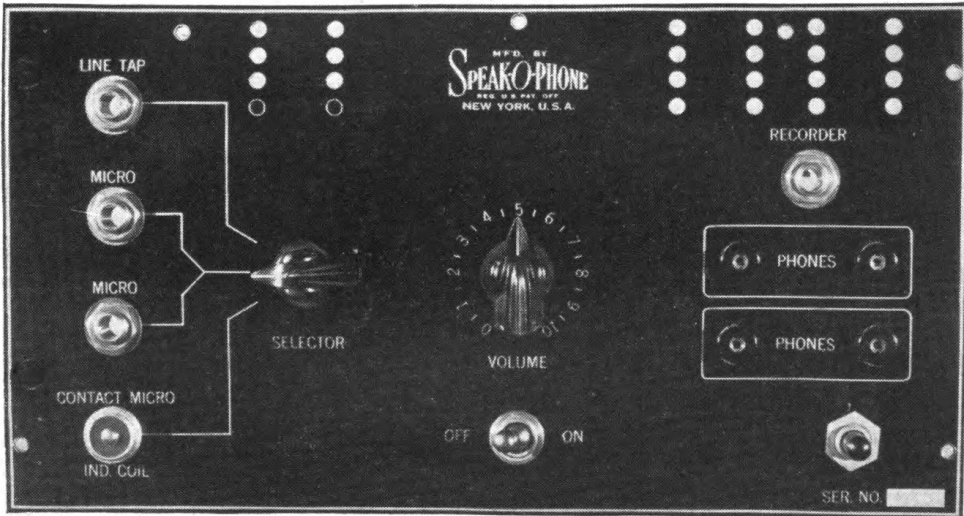

Figure 3. Amplifier control panel.
b. Two pairs of headphones (fig. 2) are provided for "listening in." There is also a recorder jack on the amplifier control panel (fig. 3), permitting everything that is heard to be recorded on a recorder. The recorder is not furnished as a part of the equipment.
d. Insert the phone plug on the end of the telephone wire into the sound detector input jack marked MICRO (fig. 3).
e. Set the selector knob (fig. 3) so that it points to MICRO.
f. Plug in headphones by inserting the phone tips into the two phone tip jacks (fig. 3) *within one etched rectangle* on the sound detector panel. If two sets of headphones are to be used, insert the second set of phone tips in the two phone tip jacks within the other etched rectangle.
g. Turn amplifier on by throwing the toggle switch (fig. 3) at the bottom of the panel to ON position.
h. Turn VOLUME control knob (fig. 3) clockwise until a voice near the microphone can be heard with sufficient volume and clarity over the headphones.
b. Screw the connector at the end of the microphone cable to the input connector (fig. 3) marked CONTACT MICRO on the sound detector panel.
c. Set the selector knob (fig. 3) to point toward CONTACT MICRO.
c. Plug into the input jack marked LINE TAP (fig. 3) on the sound detector panel.
d. Set the selector knob (fig. 3) to point toward LINE TAP.
b. Screw connector at the other end of the induction coil cable onto the input connector (fig. 3) marked IND. COIL on the sound detector panel. This is the same connector to which the contact microphone is attached when used.
d. Selector Switch. The selector switch (figs. 3 and 4) is a three-position switch which directs the path of the signal from the input jack being used to the grids of the first or second amplifier stages, according to the nature of the signal being received.